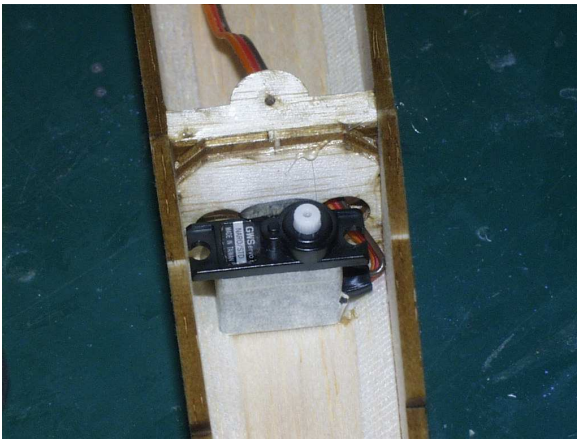

Figure 4.10: Elevator servo installed
- At this point you need to commit yourself to installing the elevator servo. A typical 9g (0.3oz) class servo provides ample strength for a brushed speed-400 setup. Tape and hot-glue in the servo to the rear side of F3. (Figure 4.10)